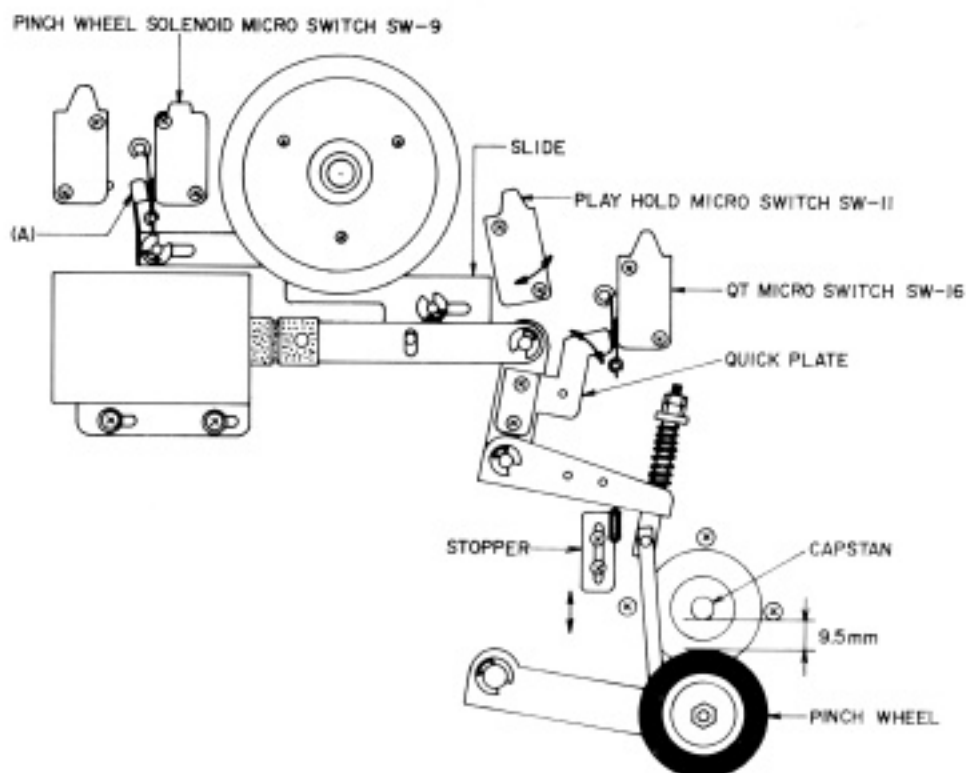

Fig. 3
2. PINCH WHEEL POSITION ADJUSTMENT AT STOP MODE (Refer to Fig. 3)
4. POSITION ADJUSTMENT OF PLAY HOLD MICROSWITCH SW-11 (Refer to Fig. 3)
5. SLIDE ADJUSTMENT (Refer to Fig. 3)
6. POSITION ADJUSTMENT OF QUICK PLATE (Refer to Fig. 3)